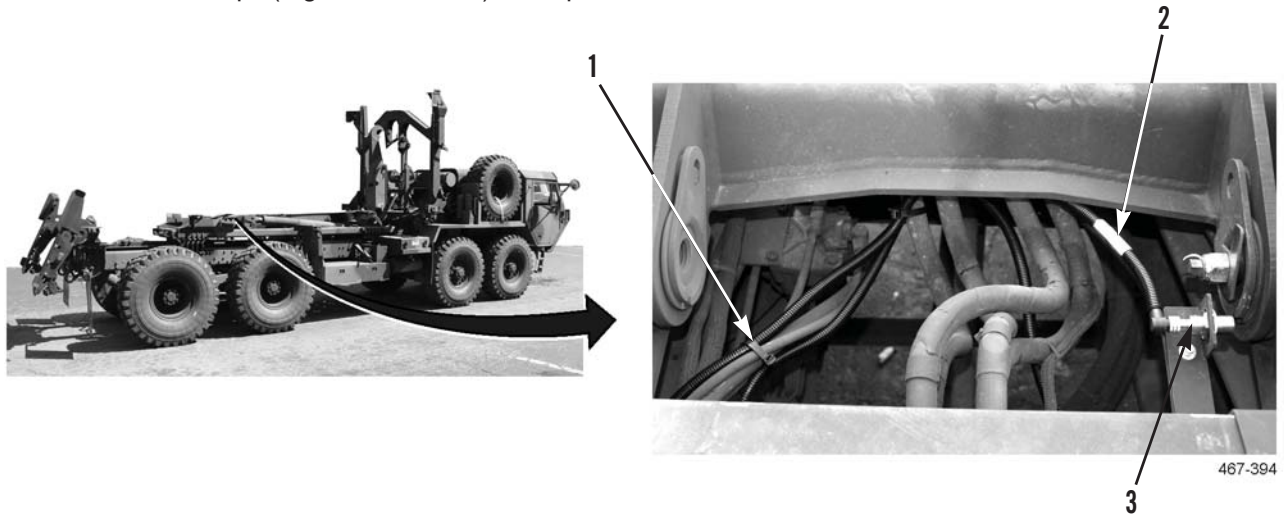

Figure 25. Middle Frame Sensor Installation.
3. Connect middle frame sensor harness (Figure 25, Item 2) to middle frame sensor (Figure 25, Item 3).
4. Instal tiedown straps (Figure 25, Item 4) as required.